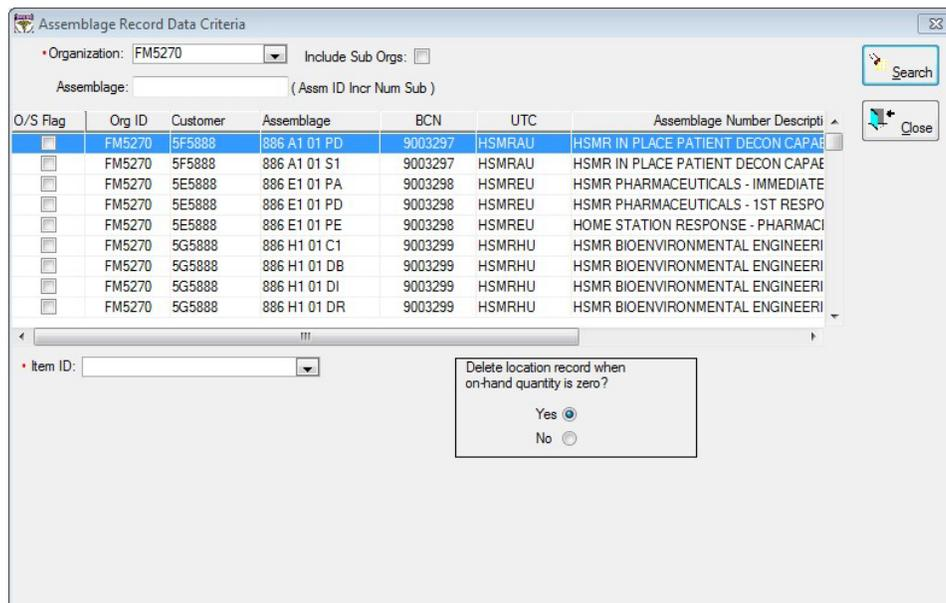

Figure 1. Assemblage Record Data Criteria Window
(1) Assemblage Record Data Criteria. The Assemblage Record Data Criteria window (Figure 1) is the first window to appear after accessing the Assemblage Record Data option and is used to select the applicable assemblage record data criteria. The following data search criteria and management options are available in this window: